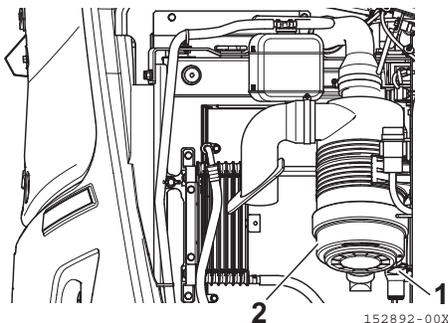
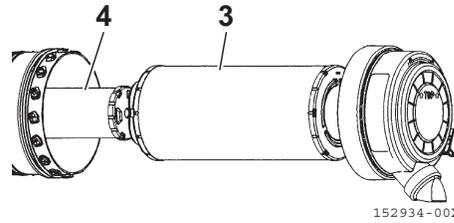

Fig. 8-61
Fig. 8-62
2. Remove the clip (Fig. 8-61, 1) and then the dust cup (Fig. 8-61, 2).
3. Remove the outer element (Fig. 8-62, 3), and cover the inner element (Fig. 8-62, 4) with a clean waste cloth or tape so that no dust or dirt can adhere to it.
4. Clean the inside of the dust cup (Fig. 8-61, 2) and the body. Remove the waste cloth or tape used to cover the inner element (Fig. 8-62, 4).
5. Install a new element (Fig. 8-62, 3).
6. Reinstall the dust cup (Fig. 8-61, 2), while checking the arrow on it.